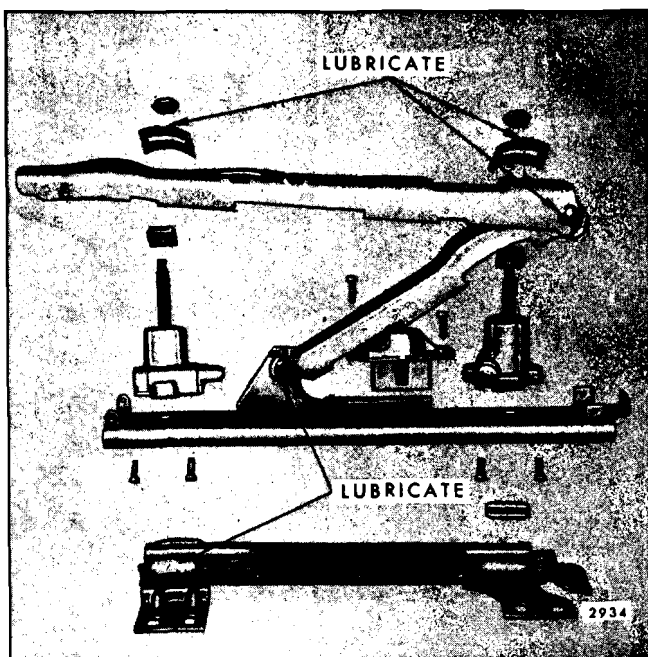

Fig. 2-15—Front Seat Adjuster Lubrication
2. Apply a thin coat of white lithium soap grease (Auto-Lube "A", Part No. 1050110 or Spray-Lube "A", Part No. 1050520 or equivalent) to the pivot pins, upper surface of the gearnut tension springs and upper channel track nylon bushings as illustrated (Fig. 2-15).